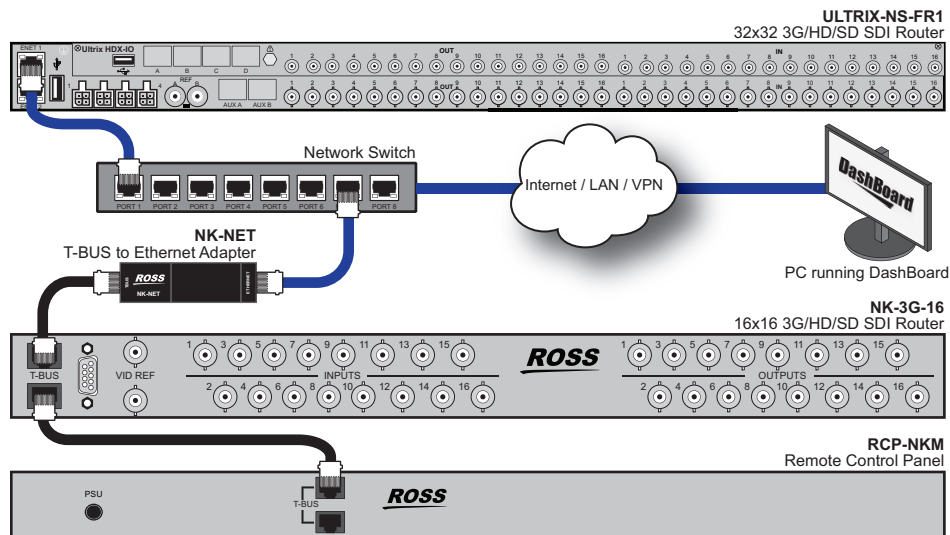

Figure 47 Connection Example with an NK-NET
- Connect the NK device to the same Ethernet network as your Ultrix router using an NK-NET or an NK-IPS, and then set up communications via the Ultracore interface in DashBoard. (Figure 47)
**Figure 47** provides an example of a system with an Ultrix and several Ross NK devices over T-Bus.